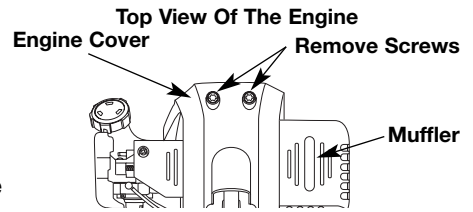

Fig. 33
- Remove the two (2) screws on top of the engine cover with a Flat-head or T-25 Torx screwdriver (Fig. 33).
- Remove the engine cover (Fig. 33).